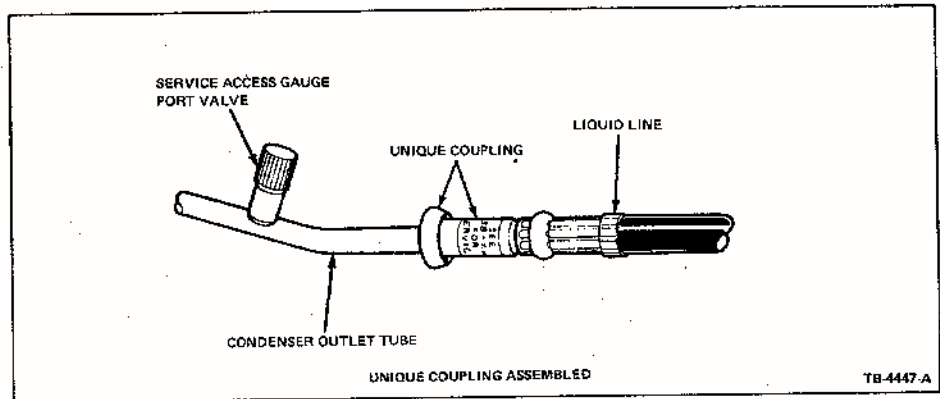

Figure 12 — Article No. 3211-S
2. Remove the two clamps retaining the refrigerant lines (Figure 12) to the condenser refrigerant line support.